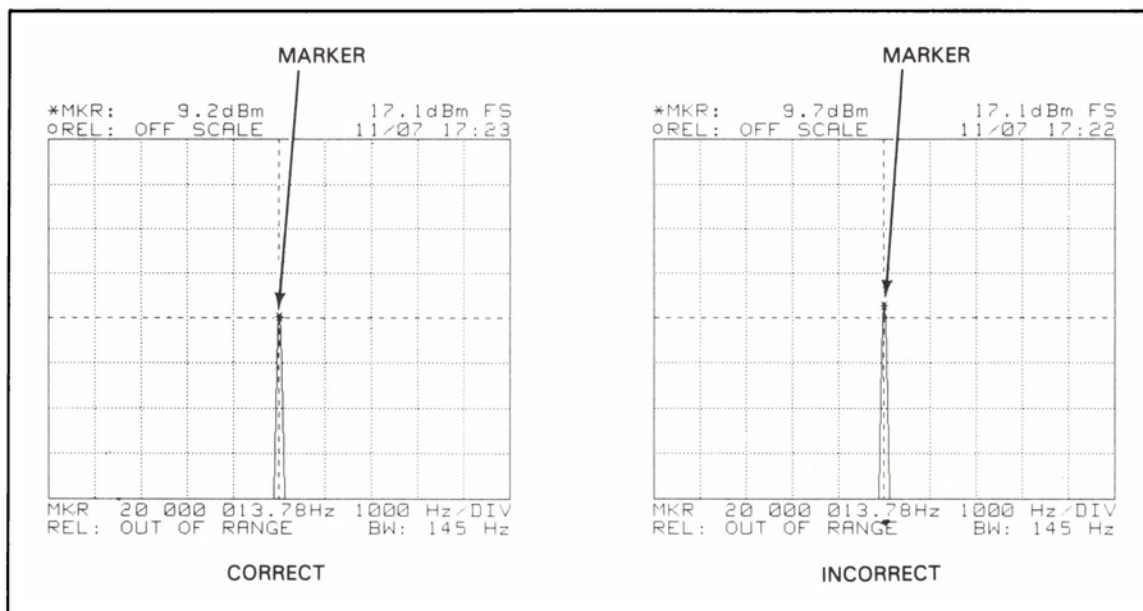

Figure 7-3. Frequency Flatness Test Adjustments
- f. Adjust the -hp- 3325A amplitude until the marker is at center graticule on the -hp- 3582A (See Figure 7-3).